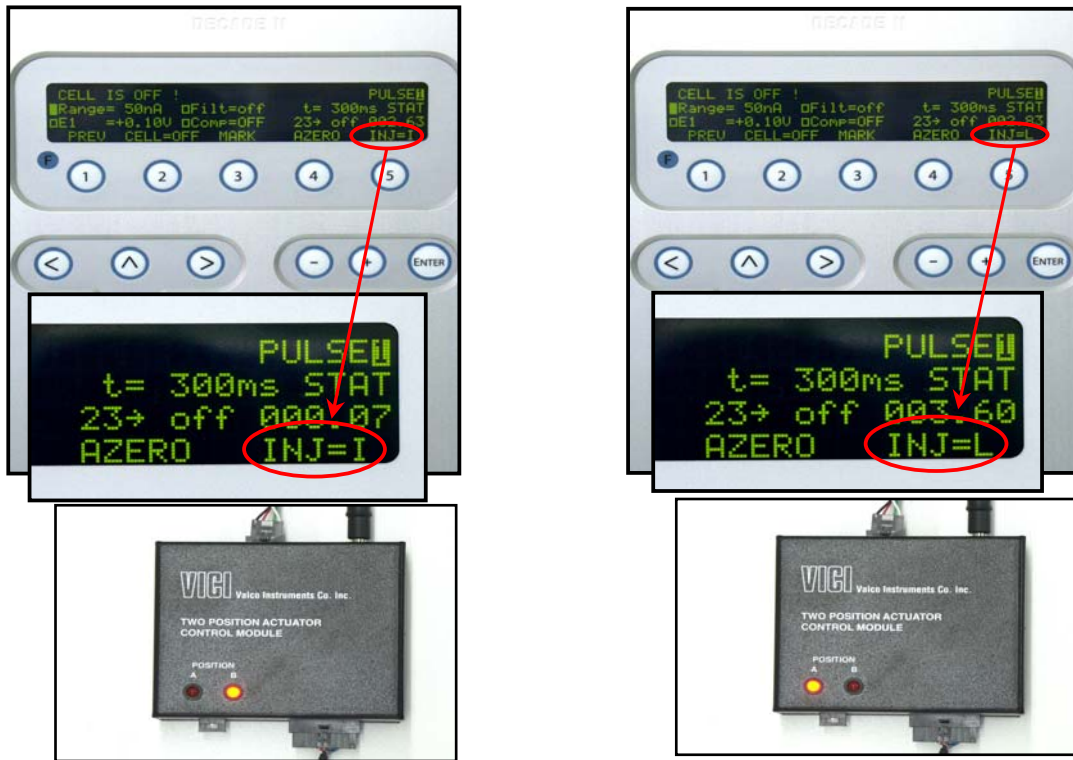

Figure 11. Correspondence between status on the actuator control module and valve status in the DC or PULSE mode STATUS screen of DECADE II
- Fix the valve bracket (p/n 250.0019) onto the mounting panel using the four supplied M3 screw as depicted in figure 11 on the next page.